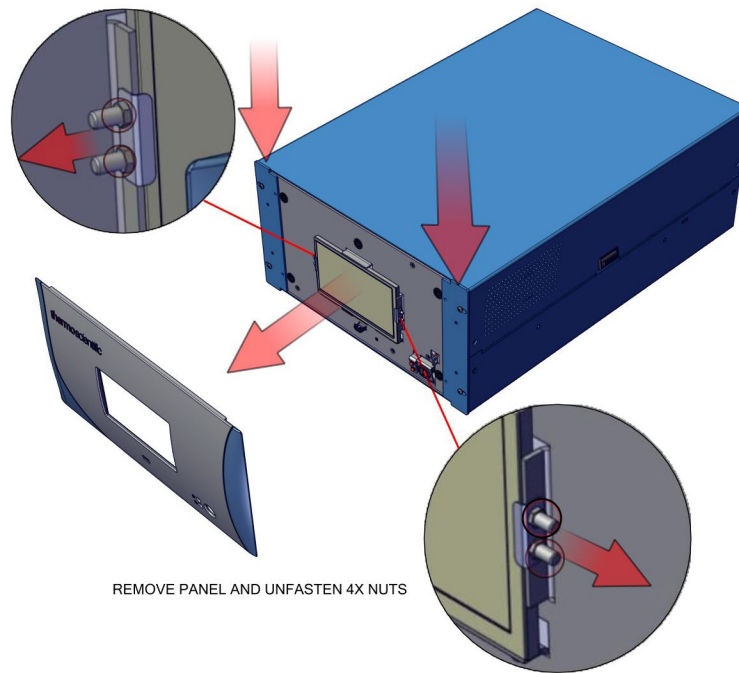

Figure 7–13. Replacing the LCD Module
3. Unfasten four nuts (Figure 7–13).